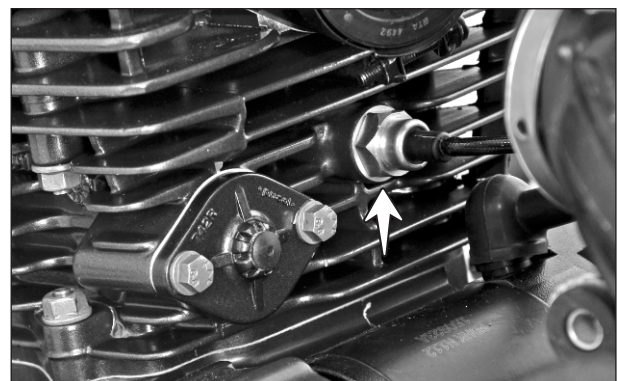

Fig. 5.15
- A thermal sensor is fixed on the cylinder block to sense the engine temperature and give input to the ECU in the form of resistance. (Fig. 5.15) Check the resistance of the thermal sensor in the following manner: